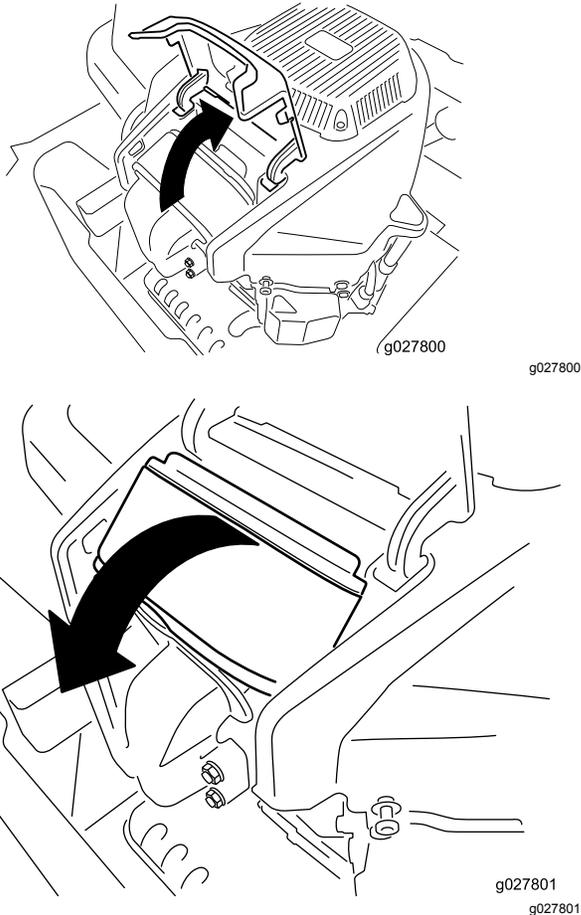

Figure 26
4. Lift the cover and rotate the air-cleaner assembly out of the engine (**Figure 26**).